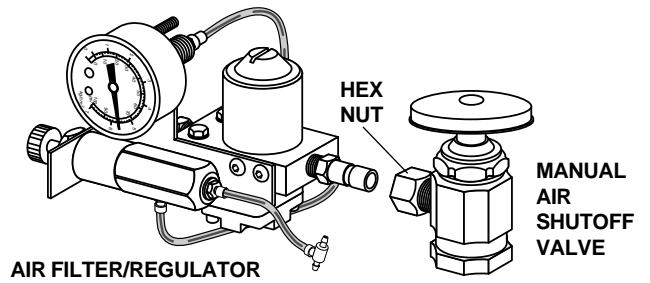

FIGURE 12
3. Connect the air filter/regulator to the manual shutoff valve (see Figure 12). Do not overtighten the fittings.